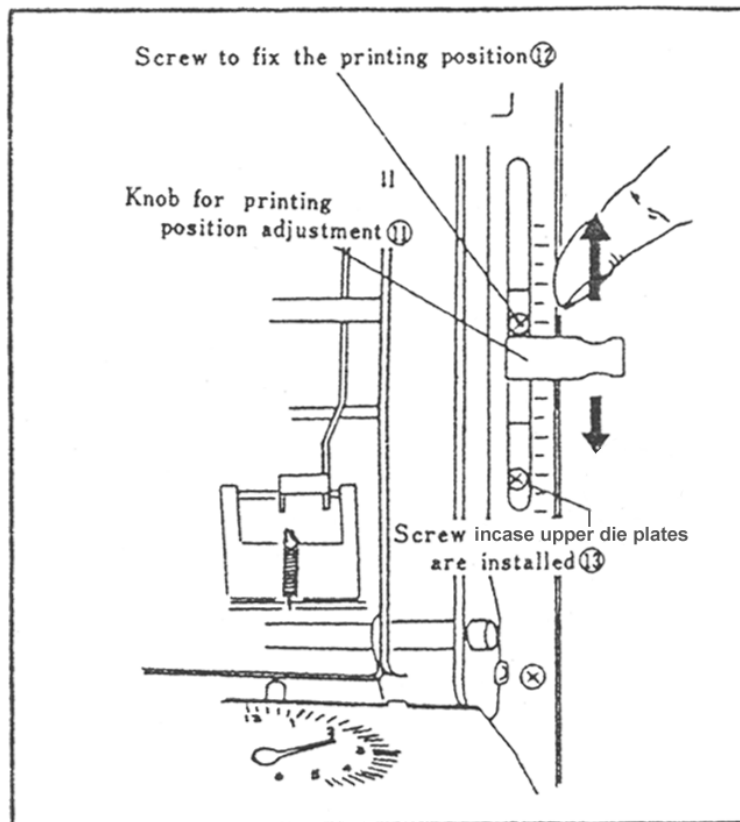

Figure 9.
- In case the printing position is to be fixed, tighten the **screw** [12] (see Figure 9), and remove the **knob** [11].